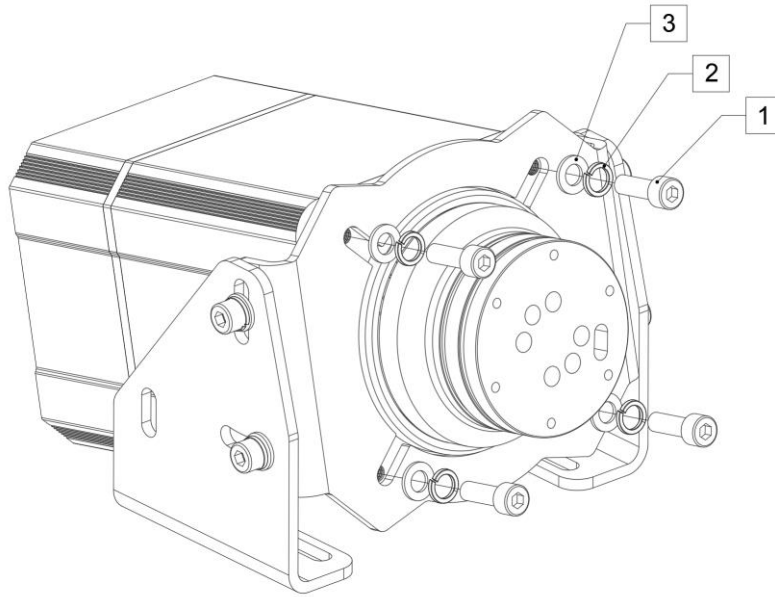

Figure 3. Mounting VNM Wheelbase using a mounting bracket
| Wheelbase Premier, Elite, Supreme | are mounted with 4xM8 bolts length 25mm with 1,25mm thread pitch (1); 4xM8 spring washers (2) and 4 xM8 flat washers (3) in Figure 3. |